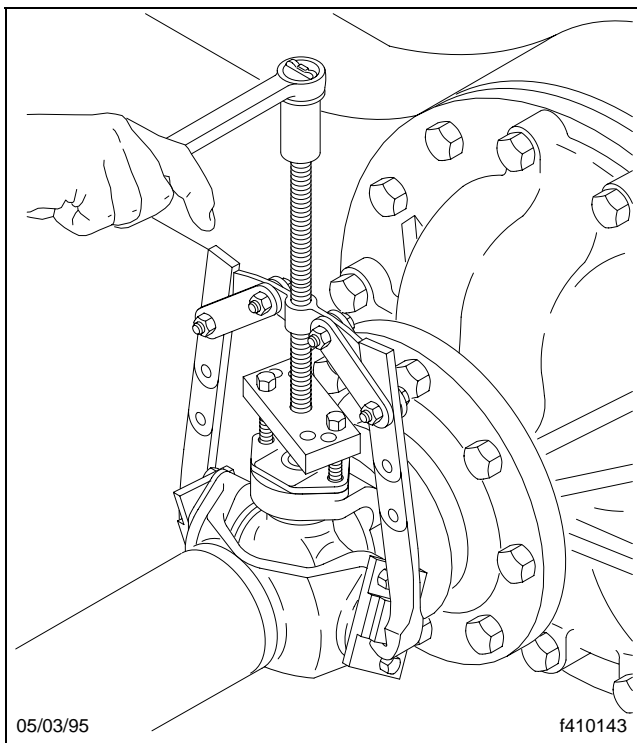

Fig. 3, Removing a Bearing Cup from a Full-Round End-Yoke
6. Using a U-joint puller, remove both bearing assemblies from the end-yoke cross-holes. See **Fig. 3**.